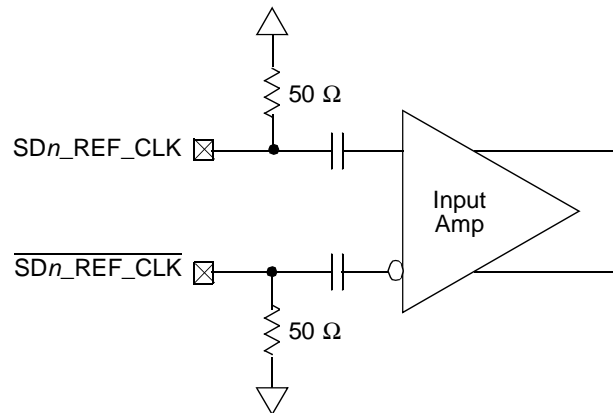

Figure 46. Receiver of SerDes Reference Clocks
- The `SD_REF_CLK` and `SD_REF_CLK` are internally AC-coupled differential inputs as shown in Figure 46. Each differential clock input (`SD_REF_CLK` or `SD_REF_CLK`) has a 50-Ω termination to `SGND_SRDS` followed by on-chip AC-coupling.